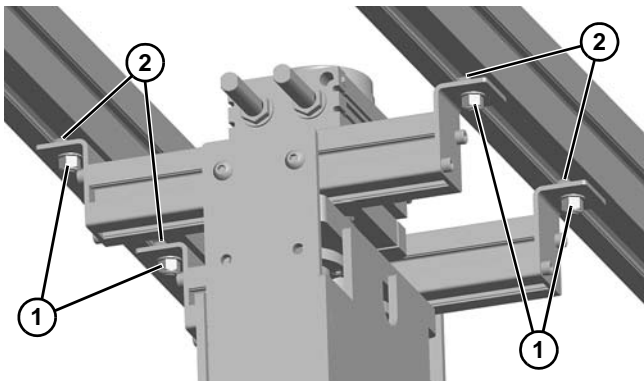

Figure 53
3. Tighten bolts (**Figure 53, item 1**) to follower nuts (**Figure 53, item 2**) inside channel.